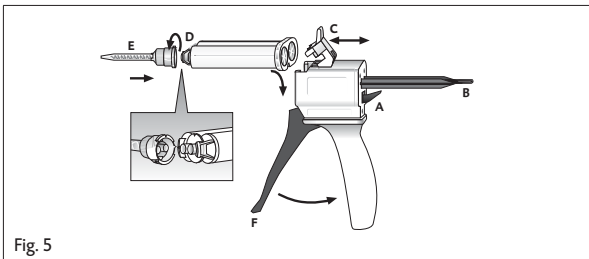

Fig. 5
1. Push up the lever [Fig. 5, Pos. A] at the back of the Automix dispenser and pull back the slide [Fig. 5, Pos. B] completely.
2. Lift up the plastic lever [Fig. 5, Pos. C], insert the cartridge and lock it using the plastic lever [Fig. 5, Pos. C].
1. Remove the cartridge cap [Fig. 5, Pos. D] or used mixing tip by turning it 90° counterclockwise, and discard it.
2. Attach a new mixing tip [Fig. 5, Pos. E].
- ▶ The material is mixed in the mixing tip by pulling the trigger [Fig. 5, Pos. F] of the Automix dispenser and it is then applied directly.
2. Lift up the plastic lever [Fig. 5, Pos. C] and remove the cartridge.